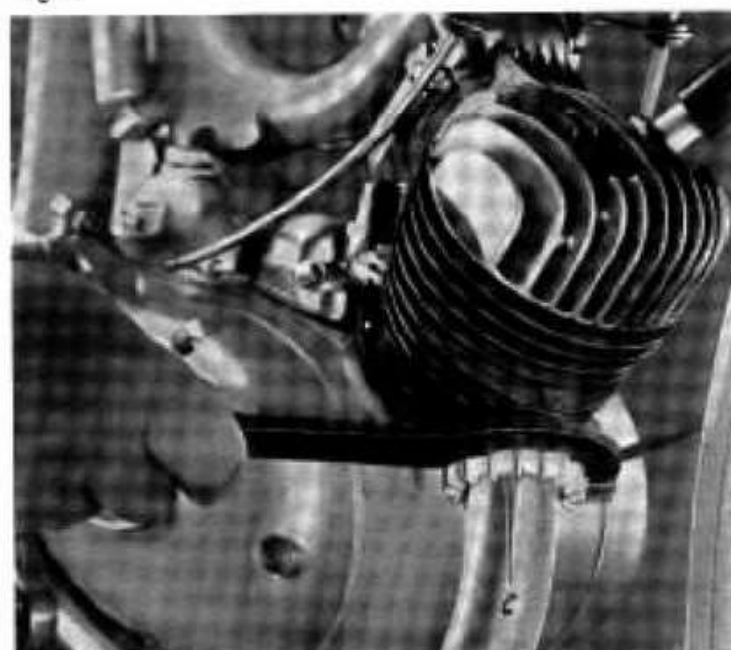

Fig. 8
- 2.5 Remove the retaining nut (c) to the exhaust manifold. It is advisable at this stage to remove the complete exhaust manifold with the silencer so that it can be cleaned after having been disassembled. (Fig. 8)